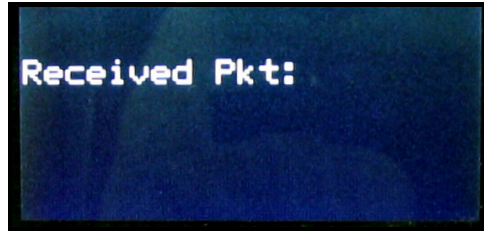

Figure 221: Sentinel LNG Screen
3. From the Sentinel LNG FACTORY menu, scroll to the Upgrade option and press [ENT] twice. The Sentinel LNG screen should appear as in Figure 221 after approximately one minute, or
Power on the Sentinel LNG, and enter ESC-R from the PC keyboard. The Sentinel LNG screen should appear as in Figure 221.